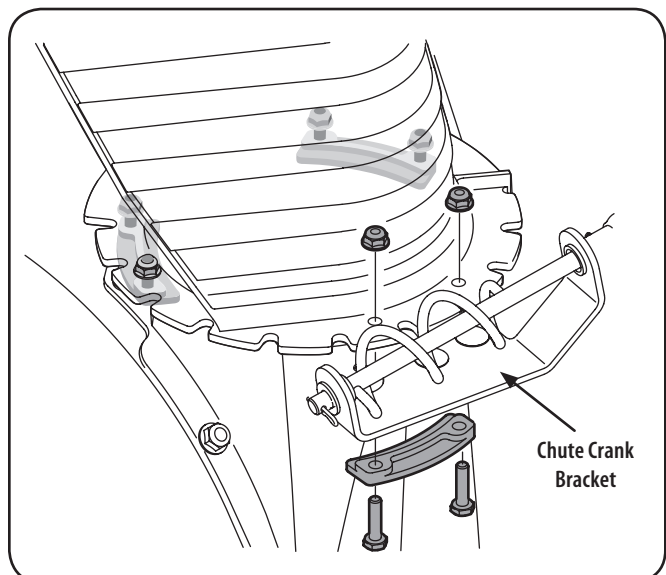

Figure 3-3
1. Loosen, but do not remove, the chute crank bracket in order to attached the chute assembly. See Figure 3-3.
- Remove lock nuts and screws securing one of the flange keepers to the chute assembly. Loosen the fasteners of the other two flange keepers. See Figure 3-3.
- Secure flange keeper removed earlier with lock nuts and screws. Tighten down nuts securing the other two flange keepers. See Figure 3-3.